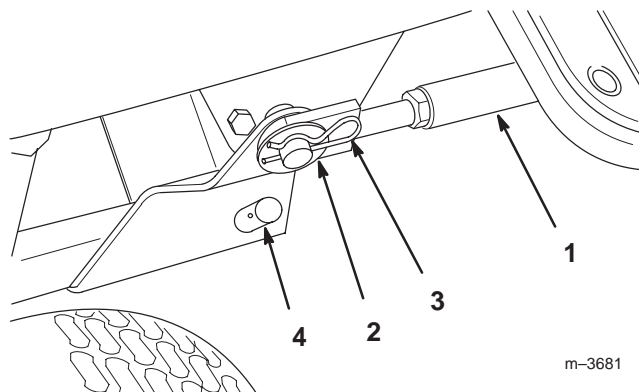

Figure 28
5. Remove the crank support by removing the hairpin cotter and clevis pin at its base (Fig. 28), then lifting the support from its mounting post.
6. Remove the support braces from the frame rods protruding from the mid Attach-A-Matic™ hitch by removing the hairpin cotters and washers (Fig. 28).